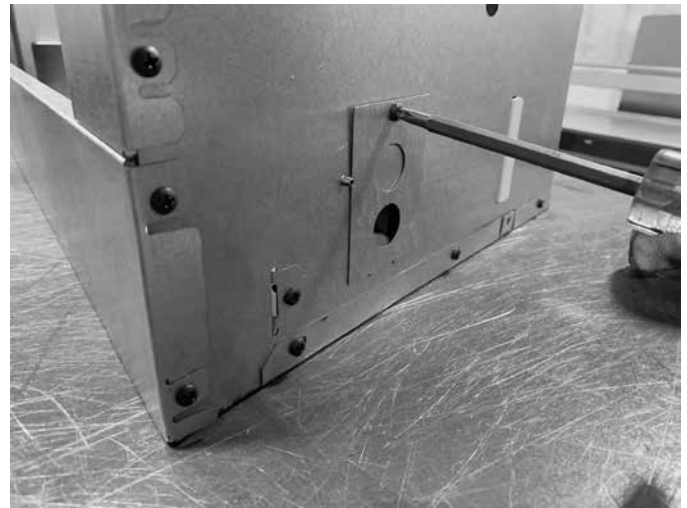

Figure 5.1 Junction Box Cover Removal
- Remove the screw attaching the junction box cover to the outer shell. Pull junction box cover out to disengage it from the outer shell. See Figure 5.1.